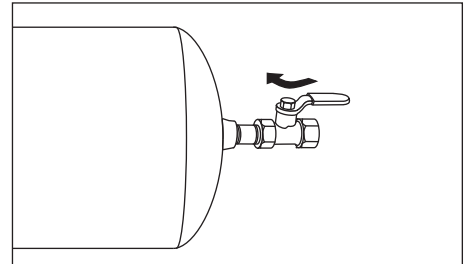

Figure 9
1. Close outlet valve (See Figure 9).